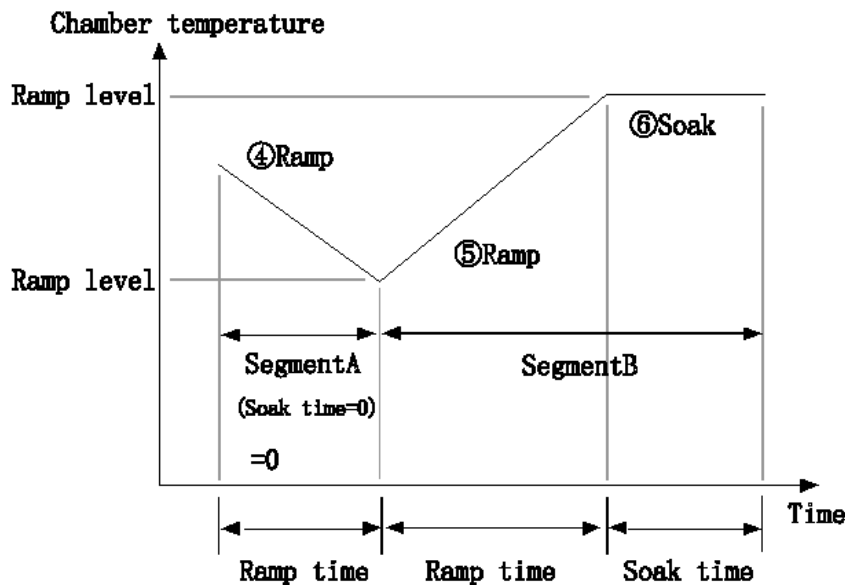

Fig. 2.3: Connection of Segmen4
The soak time is set at zero (0) for a segment with only gradient-operation, while the ramp time is set at zero (0) for a segment with only fixed-value operation. Figure 2.3 shows a connected pattern of these 2 segments. In this figure, Section (4) is a segment only with the soak time set at zero (0).